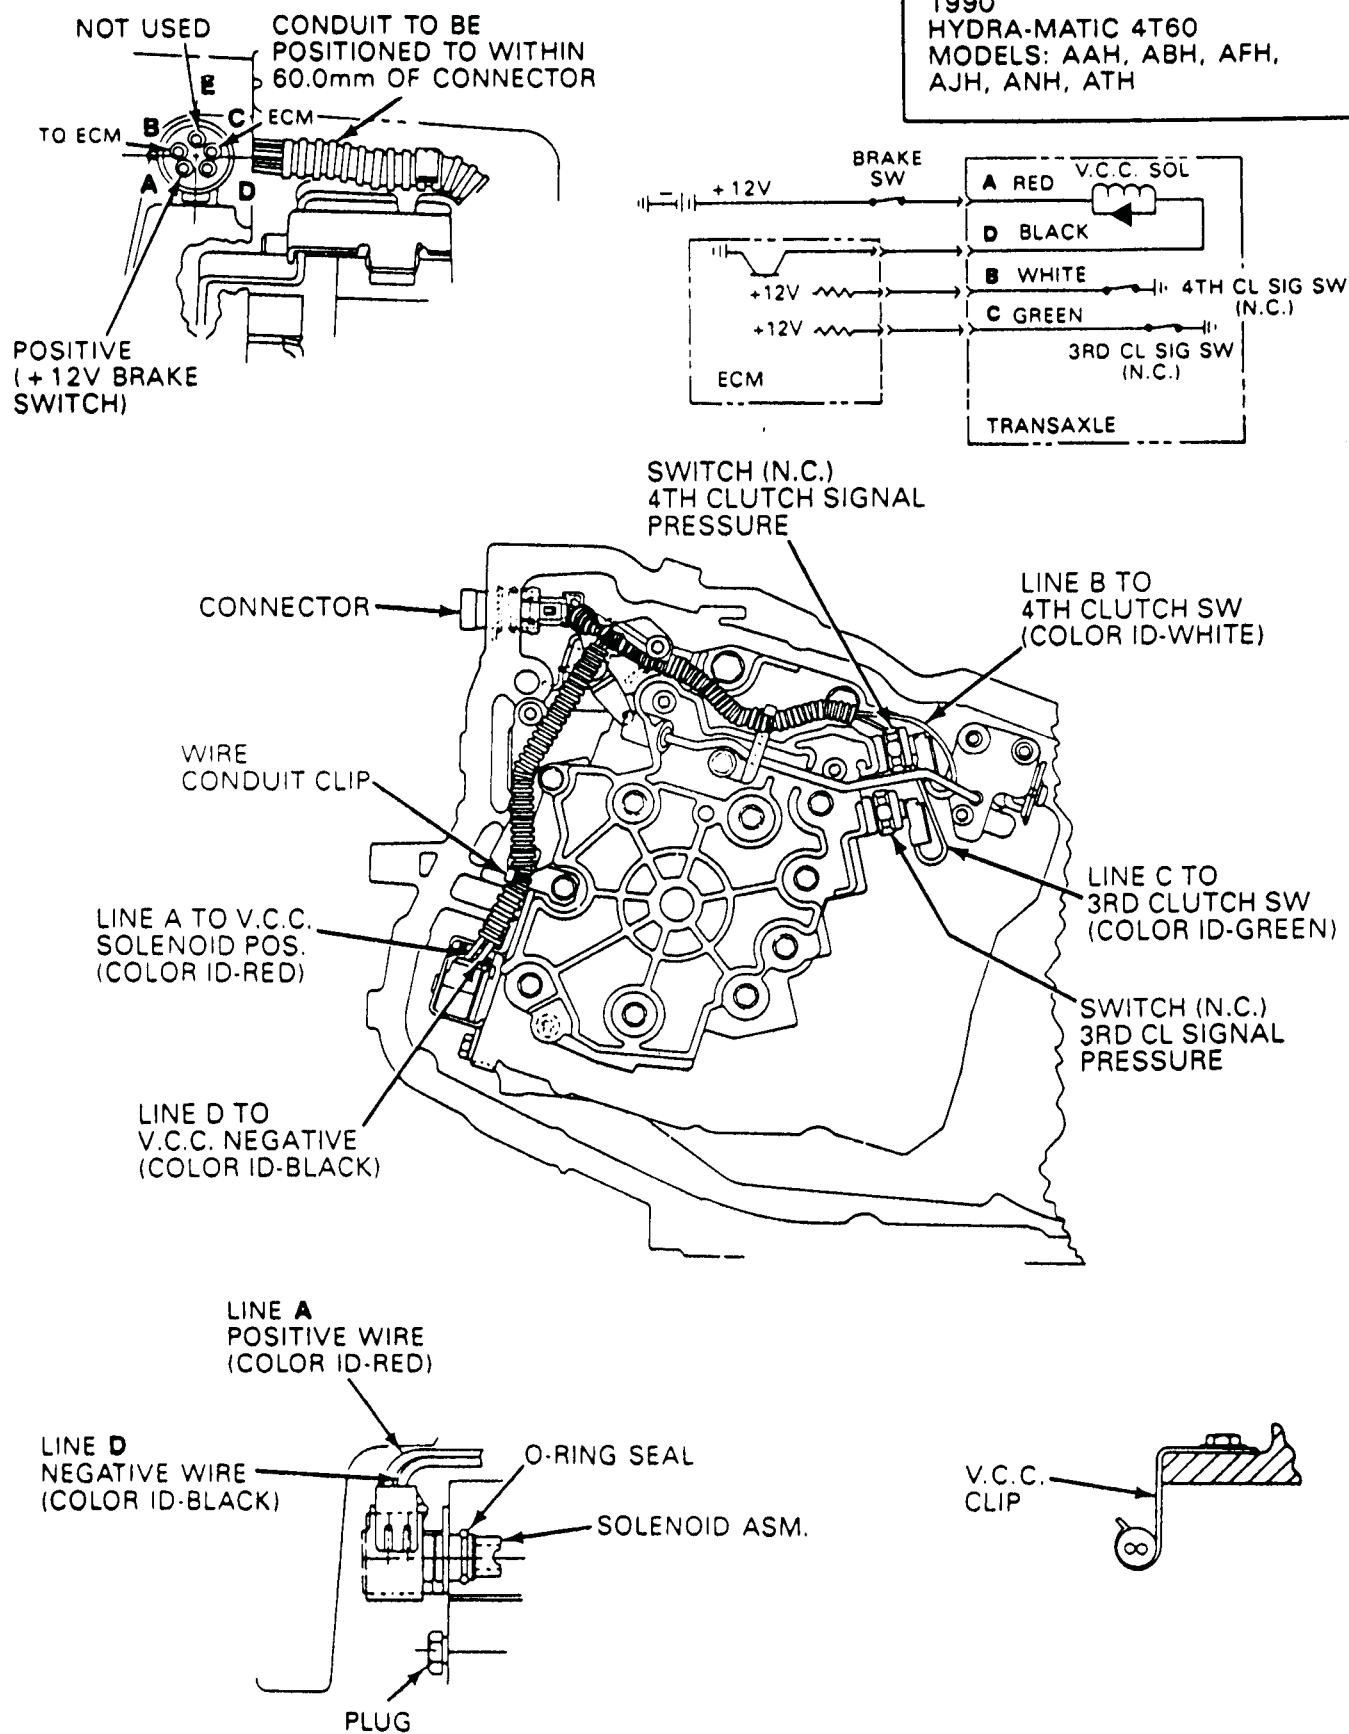

Figure 8
- (2) **WIRING HARNESS** - The new wiring harness will have different type connectors to accommodate the new "Button" head switches. Refer to Figures 8, 9, & 10 for wiring harnesses.